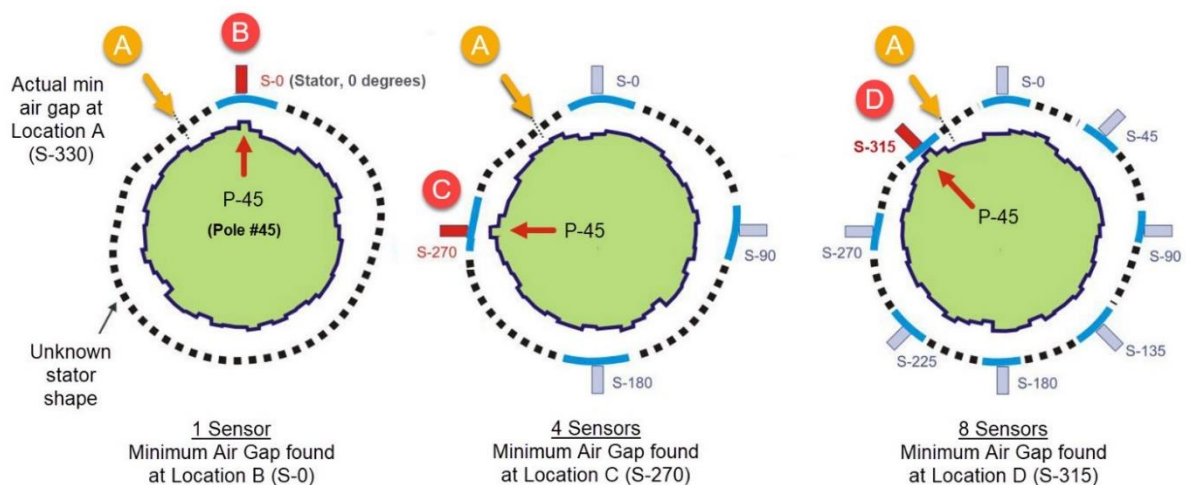

Figure 7-2) Minimum Air Gap, Number of Sensors
Figure 7-2 shows how additional sensors provide increased accuracy. If one sensor (B) is installed at 0 Degrees (S-0), the minimum air gap will be (of course) detected at that location (B, S-0). With four sensors installed the minimum air gap is detected at sensor location (C, S-270), and with eight sensors at sensor location (D, S-315).